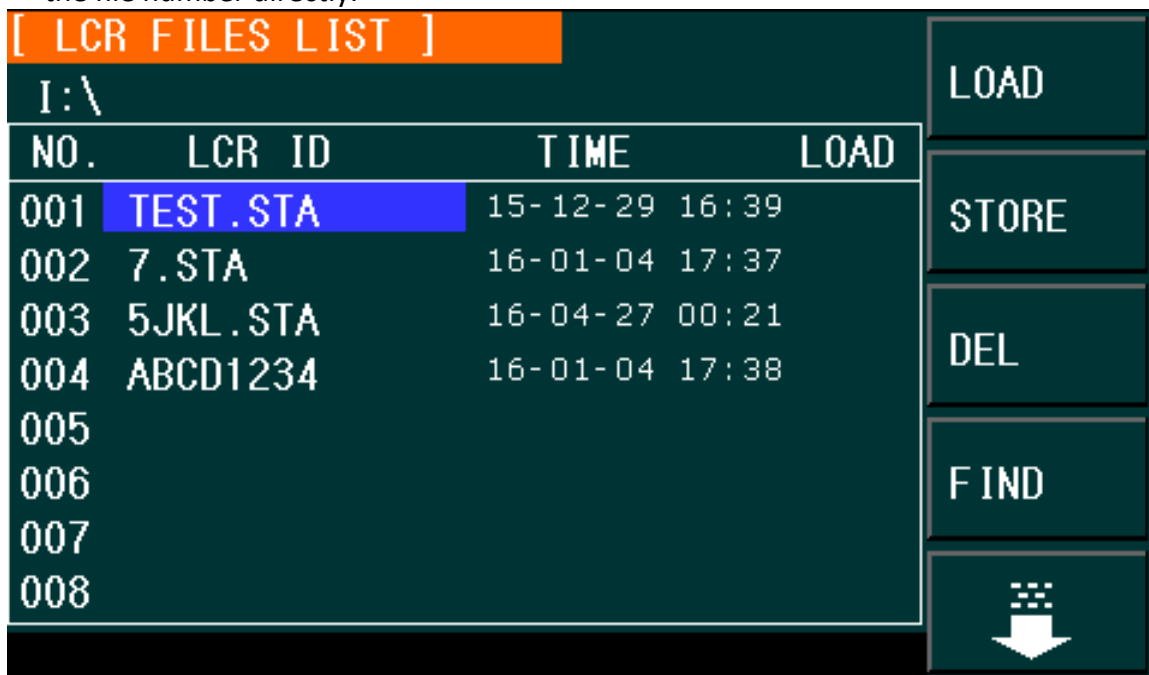

Figure 29 - LCR Files List
2. In the file list (under the **LCR ID** label, see **Figure 29**), move the cursor to the file-saved position or input the file number directly.